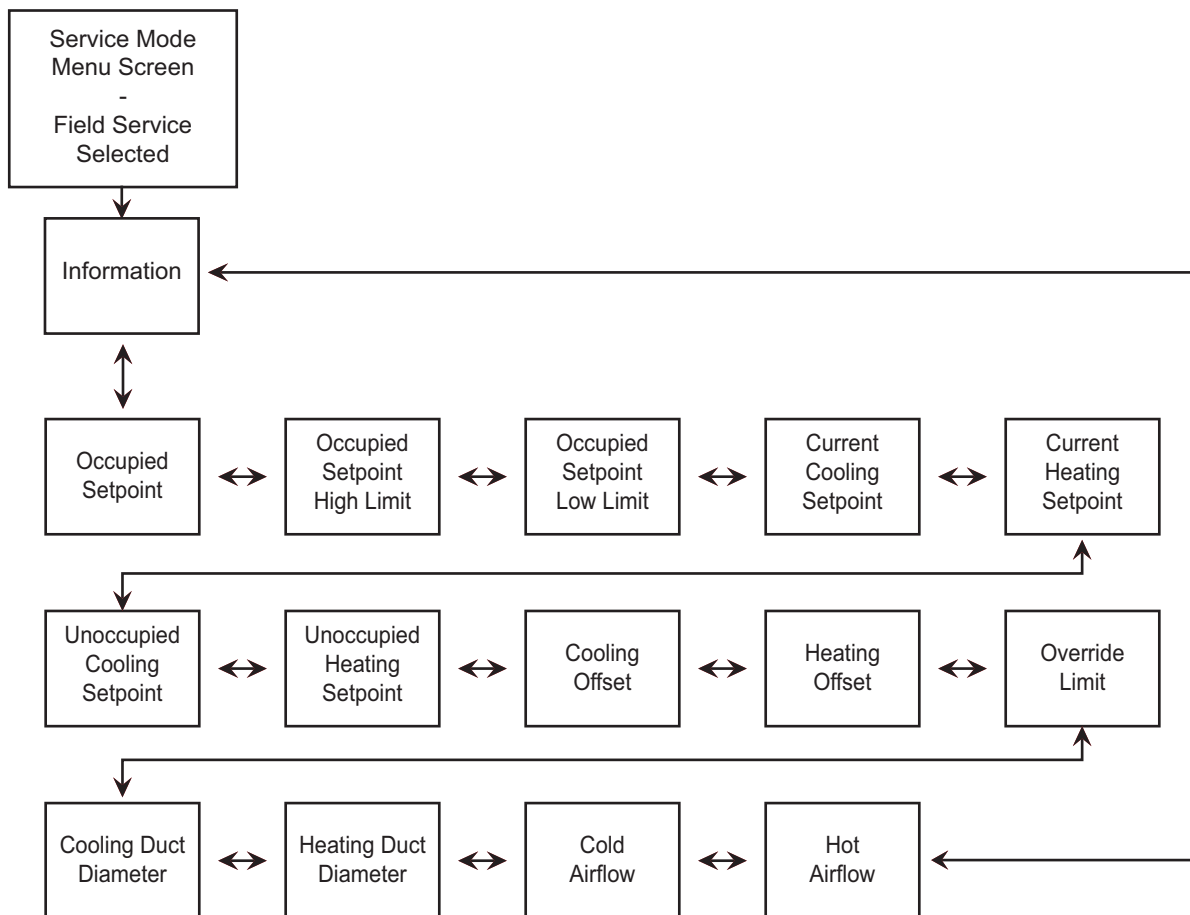
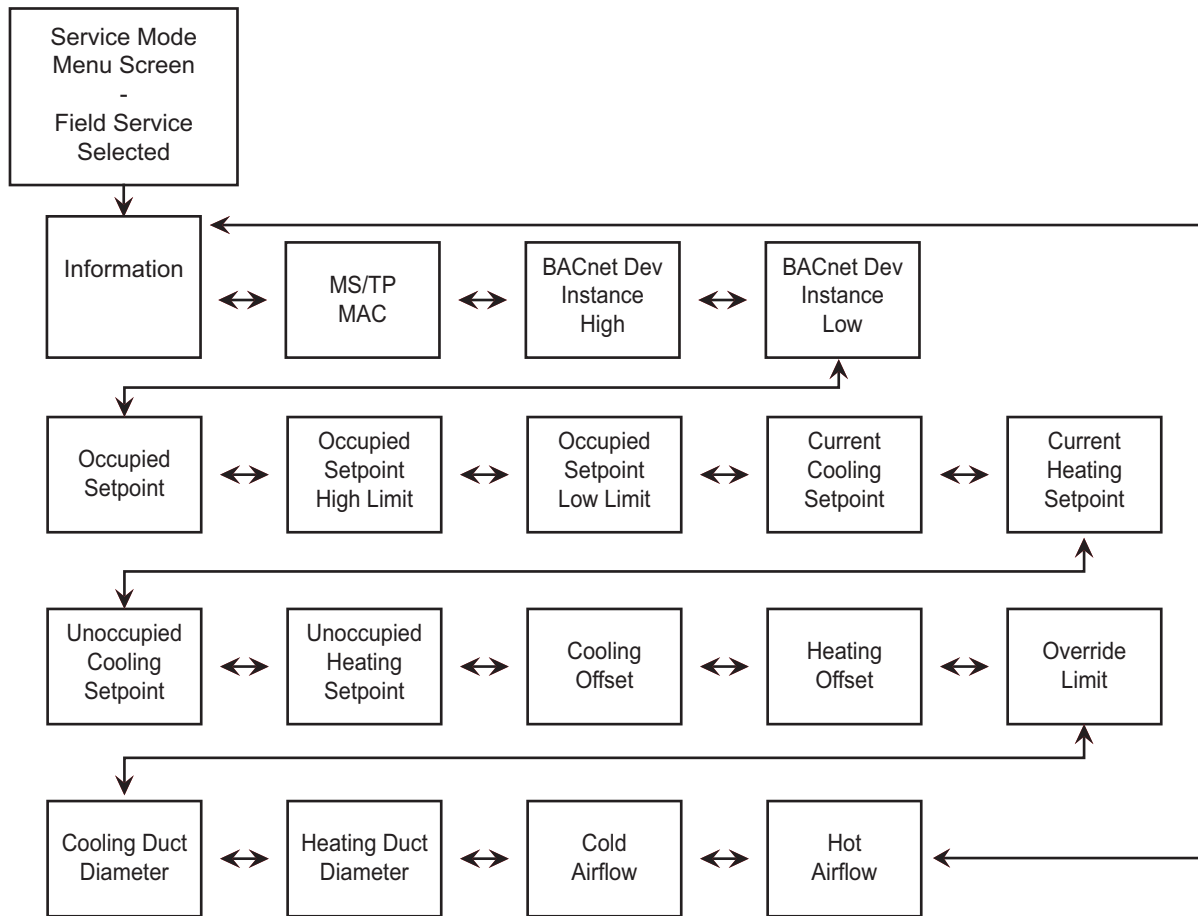

Figure 26 Field Service Mode screen flow sequence for MS4-TH, -THC, and -NL.
Figure 27 Field Service Mode screen flow sequence for MS4-TH-MSTP.
1. Press the LEFT/RIGHT navigation arrow until the variable you want to adjust appears. See Figure 26 for Field Service Mode screen flow sequence for MS4-TH, -THC, and -NL; see Figure 27 for Field Service Mode screen flow sequence for MS4-TH-MSTP.